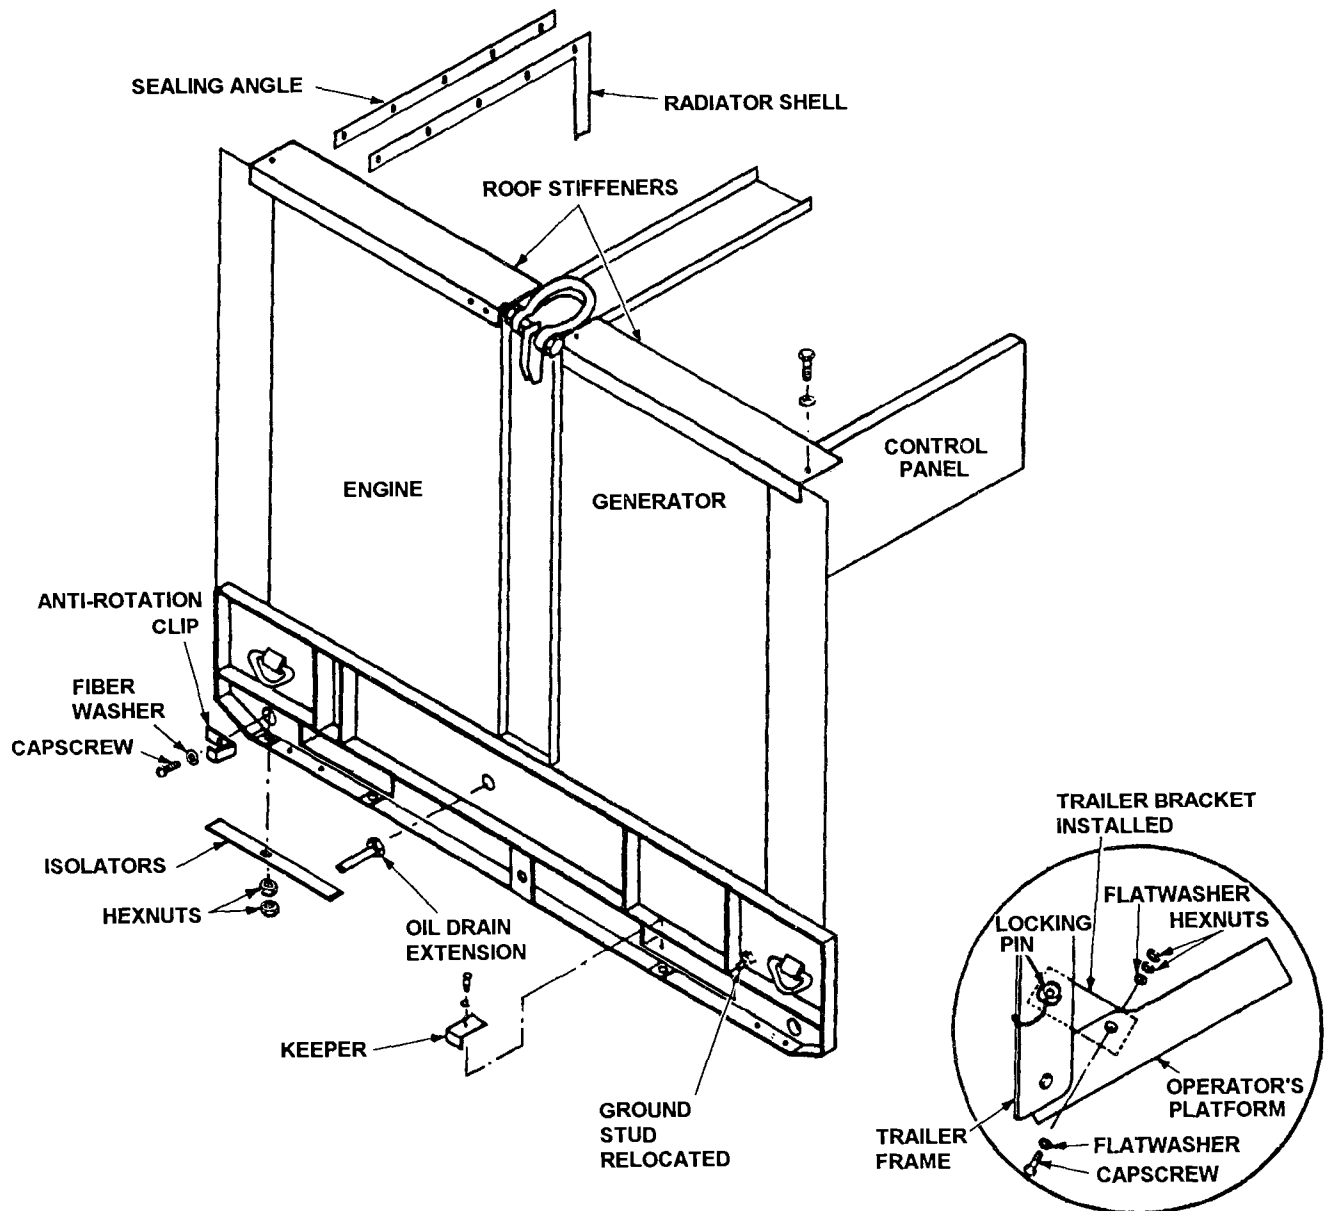
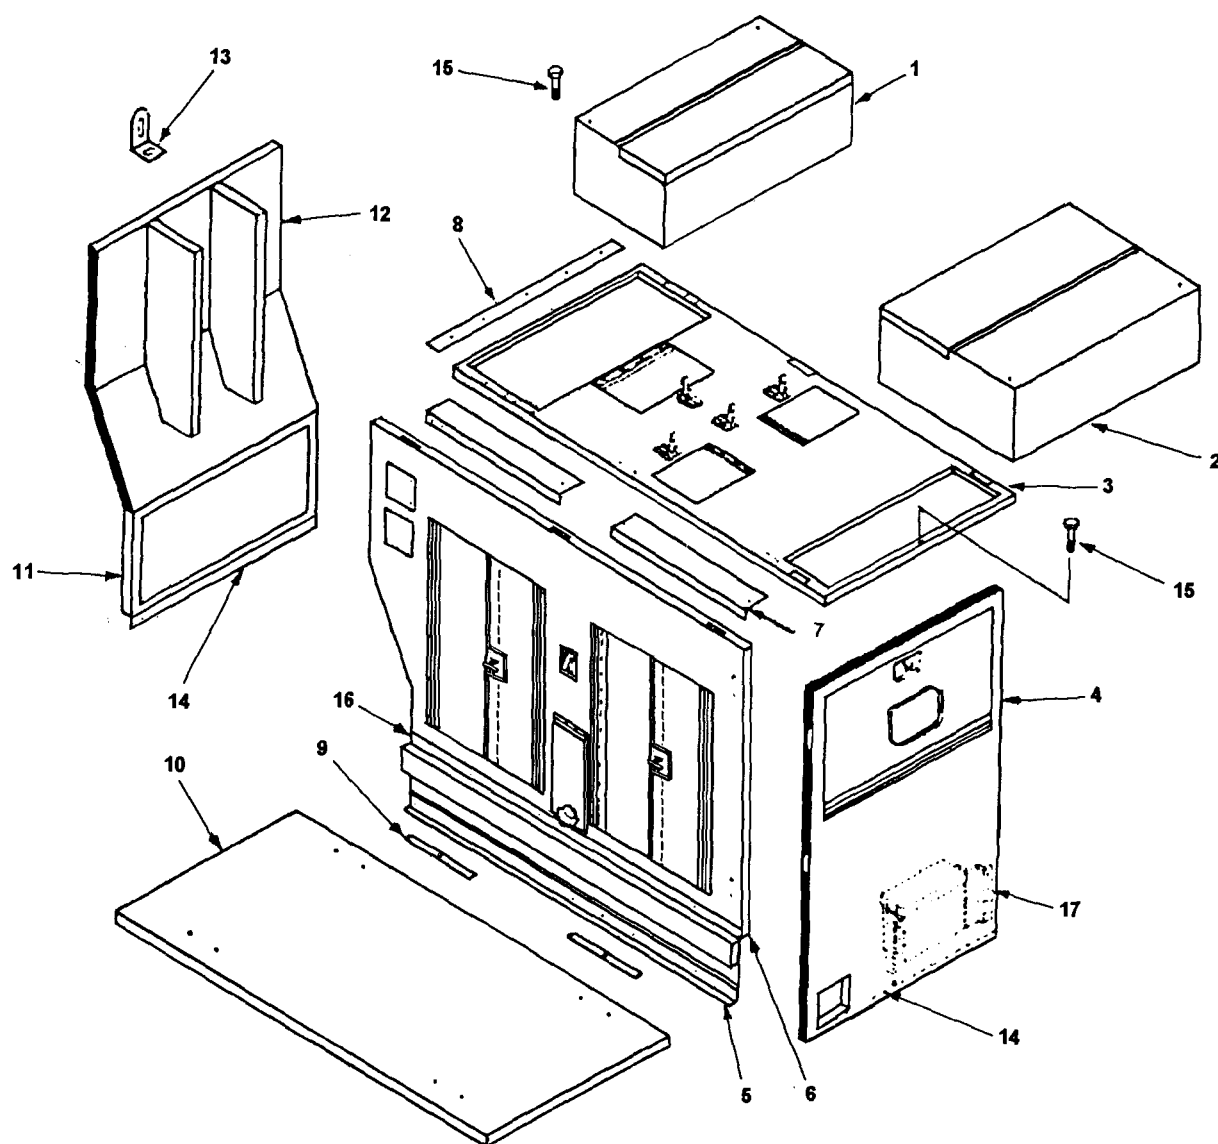

Figure 5-18. Roof Stiffeners, Sealing Angle, Oil Drain, Isolators, Bottom Panel Tray Assembly, and Trailer Brackets
Figure 5-19. Acoustic Suppression Kit Major Components
- (1) Using a suitable lifting device, raise generator set and place 6"x6" blocks under skids. Lower generator set onto blocks.
- (2) Grease inside of generator set skids with grease (GAA).
- (3) Using a suitable lifting device, raise generator set, remove 6"x6" blocks, and place 2"x4" blocks under skids of generator set. Lower generator set onto 2"x4" blocks. Ensure blocks are under skids only. Do not remove tension from lifting device.
- (4) Slide bottom tray under generator set. Ensure weld nuts are positioned in down position. Weld nuts should be centered on fork lift tunnel holes.
- (5) Raise bottom tray assembly, and install keepers, washers, and capscrews to secure on side of bottom tray assembly. (Refer to Figure 5-18.)
- (6) Raise generator set, and remove 2"x4" blocks. Place a 1"x4" block under bottom tray assembly on other side and slowly lower generator set to push bottom tray assembly into position. Rubber must not bend or be allowed to tear loose when generator set is lowered.
- (7) Install keepers, washers, and capscrews to secure the bottom tray assembly. (Refer to Figure 5-18.)
- (8) Raise generator set, and remove 1"x4" block Lower generator set and remove lifting device.
- (9) Raise side panel skirt 90° and remove screws, capscrews, washers, keepers, and remove upper side panel skirt. (Refer to Figure 5-19). Attach lifting sling, and carefully raise and position side panel assembly on mounting member.
- (10) Install three rubber washers, three flat- washers, and three locking nuts in bottom side panel. Ensure rubber flaps are flat against radiator and are pointed forward. Remove plastic plug and feed oil drain hose through side panel hole.
- (11) Remove lifting sling from side panel.
- (12) Repeat steps (9) thru (11) to install other side panel.
- (13) Position front lower panel assembly on generator set. Ensure top rubber flat is in raised position on radiator shell lip. Remove plastic plugs from rotolocks holes. Align male and female rotolocks and, using hex tool, turn rotolock to secure the front lower panel assembly. (Refer to Figure 5-19.) Install plastic plugs. Ensure mounting zee is below bottom tray assembly.
- (14) Attach lifting strap to front top panel, and raise front top panel assembly on side panels. Ensure alignment pins fit in holes for proper alignment. Remove plastic plugs from rotolockholes. Align male and female rotolocks and using hex tool, turn rotolock to secure the front top panel assembly. Remove lifting strap. (Refer to Figure 5-19.) Install plastic plugs.
- (15) Position exhaust extension on engine exhaust. Install and tighten damp to secure the exhaust extension. Exhaust extension opening must be pointed down and must not interfere with other components later.
- (16) Attach lifting strap on rear panel assembly, and position rear panel assembly on generator set. Ensure alignment pins are in holes for proper alignment. Remove plastic plugs from rotolock holes. Align male and female rotolocks and, using hex tool, turn rotolocks to secure the rear panel assembly. Remove lifting strap. (Refer to Figure 5-19.) Install plastic plugs. Ensure mounting zee is below bottom tray assembly.
- (17) Attach lifting sling to roof panel assembly, and position on generator set. Ensure alignment pins are in holes. It may be necessary to use C-clamps to pull the side panels into position using the lifting clevis as an anchor for the C-clamp. Remove plastic plugs from rotolock holes. Align male and female rotolocks and, using hex tool, turn rotolocks to secure the roof panel assembly. Remove the lifting sling. (Refer to Figure 5-19.) Install plastic plugs. Install two socket head capscrews to secure roof panel assembly.
- (18) Slide sealing angle into position, and tighten capscrews.
- (19) Tighten capscrews securing mounting members.
- (20) Attach lifting sling to inlet turn assembly, and position on roof assembly. Remove the lifting sling. Remove plastic plugs from rotolock holes. Align male and female rotolocks and, using hex tool, turn rotolocks to secure the inlet turn assembly. (Refer to Figure 5-19.) Install plastic plugs.
- (21) Attach lifting sling to discharge turn assembly, and position on roof assembly. Remove the lifting sling. Remove plastic plugs from rotolock holes. Align male and female rotolocks and using hex tool, turn rotolocks to secure the discharge turn assembly. (Refer to figure 5-19.) Install plastic plugs.
- (1) Raise side panel skirts, and install ground wire. Install anti-rotation clips and fiber washer on capscrews, and install capscrews. Lower side panel skirts.
- (2) Glue isolators on skid base or surface of trailer. (Refer to Figure 5-18.)
- (3) Lower generator set onto trailer. Attach ground wire to trailer.
- (4) Install washers and nuts on capscrews to secure generator set.